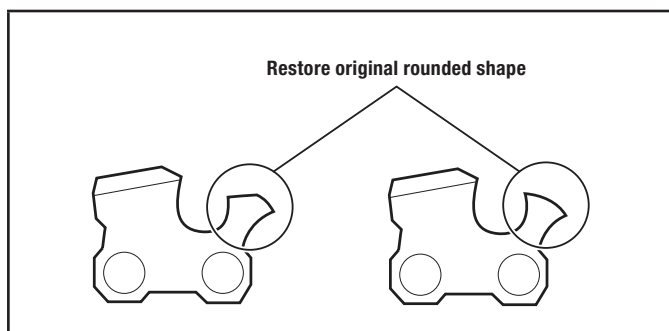

Figure 36
- 3b. After lowering the depth gauge, use the flat file to restore the original rounded shape to the depth gauge (Fig. 36). Take care not to damage the cutting edges or nearby links.